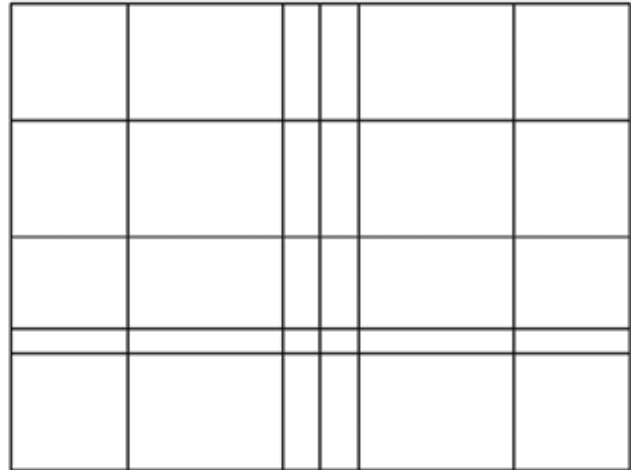

Figure 10.2
5. Offset the left border of the rectangle so you obtain intersections for each small polygon you need to draw, and lines designating the edge of the large polygon. Your drawing should now look like Figure 10.2.